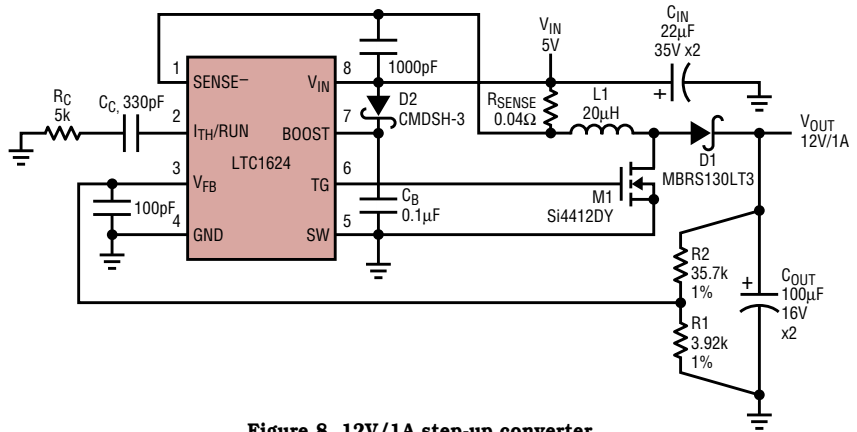

Figure 8. 12V/1A step-up converter
Step-up and SEPIC applications require a low-side switch pulling the inductor to ground (see Figures 8 and 10). Since the source of the MOSFET must be grounded, the switch pin (SW) on the LTC1624 is also grounded in order for the driver to supply a gate-to-source signal to control the MOSFET. In these applications, the voltage on the boost pin is a constant 5V, resulting in a 0V–5V gate-drive